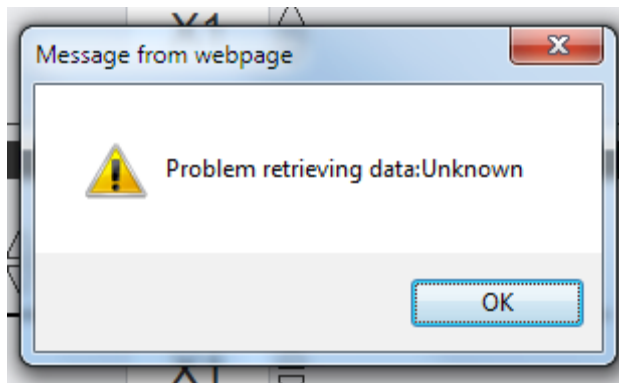

Figure 5-11, Communication Error Message
- 11) Once this is done, communications will immediately be lost and an error message, similar to that shown in figure 5-11, will be shown: